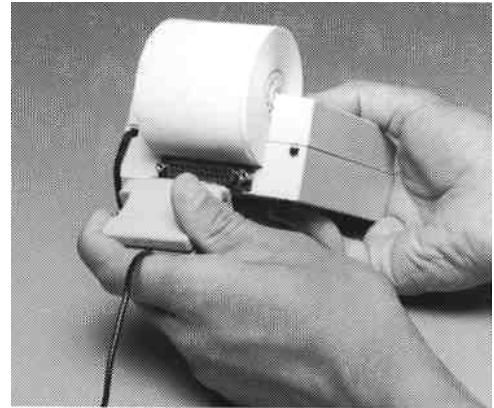

Figure I-17. Connecting the printer interface cable to the printer
Step 3. Plug the other end of the printer interface cable into the connector on the back of the printer (fig. I-17).